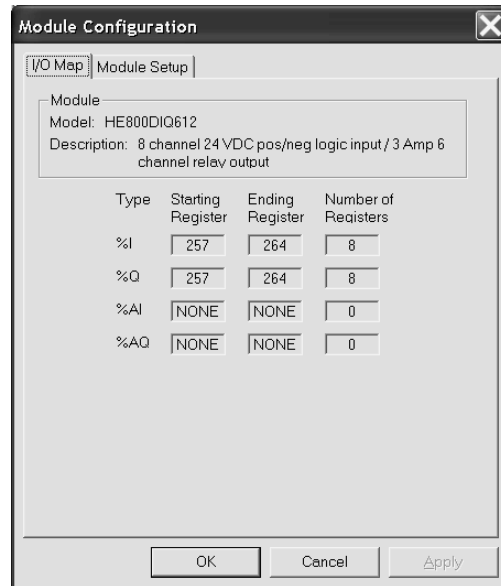

Figure 29 – I/O Map Tab
5. The Module Configuration Screen appears (Figure 29). Two tabs are available for selection: